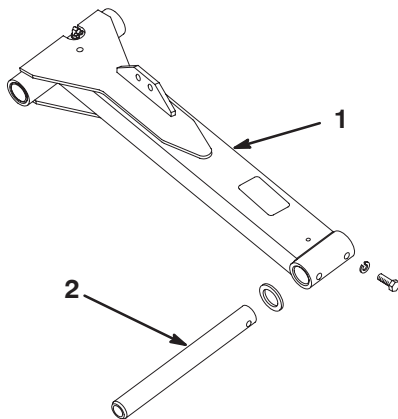

Figure 4
- Insert a pivot rod into the left lift arm and align the mounting holes (Fig. 4).